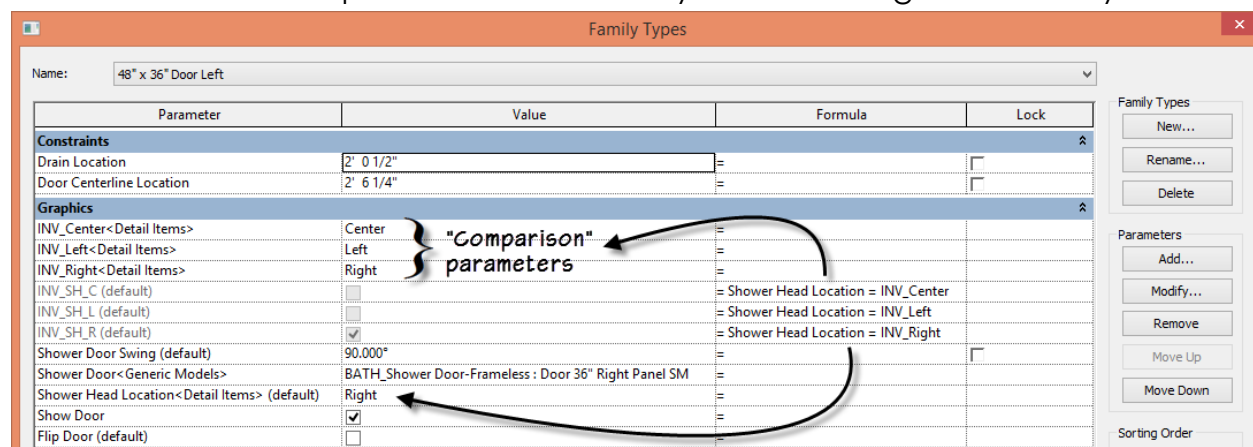

Figure 26—Set up family types to evaluate the choice from Shower Head Location and use it to set visibility
- ⇒ Set INV_Right to: Right. INV_Left to: Left and INV_Center to: Center (see Figure 26).